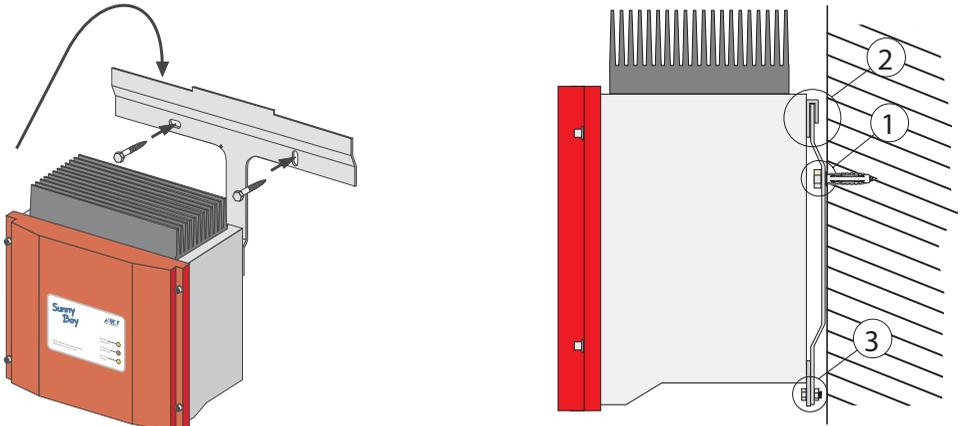

Figure 3-4 Sunny Boy 700U with Mounting Bracket
The Sunny Boy 700U is shipped with a T-shaped wall-mounting bracket that is suitable for use with most walls (see Figure 3-4). The horizontal part of the T bracket has two holes spaced for 16-inch centers for mounting on wooden wall studs, or it can be mounted on concrete or stone walls. Make sure that the wall you choose to mount the Sunny Boy on is sturdy enough to support its weight (16 kg/36 lb.) over a long period of time and that the wall is plumb.
5. Insert two stainless-steel lag screws through the holes in the horizontal part of the wall-mounting bracket and into the holes you drilled in the wall. Tighten the screws until the bracket is held firmly against the wall (see #1 in Figure 3-4). Do not overtighten the screws.
6. Carefully lift the Sunny Boy into position near the mounting bracket. The upside-down, U-shaped bracket attached to back of the Sunny Boy at the top edge fits over the top edge of the bracket so that the Sunny Boy hangs from the bracket (see #2 in Figure 3-4).
9. Insert an M6x10 bolt through the hole in the mounting strap and into the threaded hole in the bottom end of the wall-mounting bracket (see #3 in Figure 3-4).